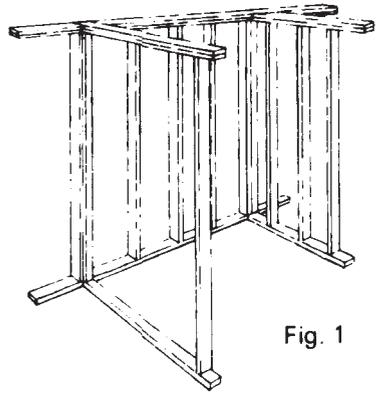

Fig. 1
1. The tub or shower unit should be on the job site during the early stage of framing. Studs may be temporarily omitted to allow unit to be moved into place (Figure 1).